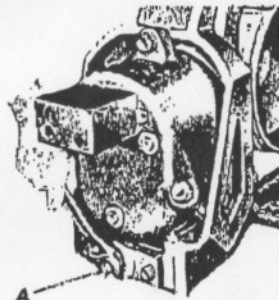

Fig. 1—Releasing brake torque to provide clearance between shoes during installation.
2. To provide ample clearance between shoes and wheel during installation, release torque by turning the torque adjusting screw (A in Fig. 1) counterclockwise. The lock nut that secures the torque adjusting screw must be loosened first.